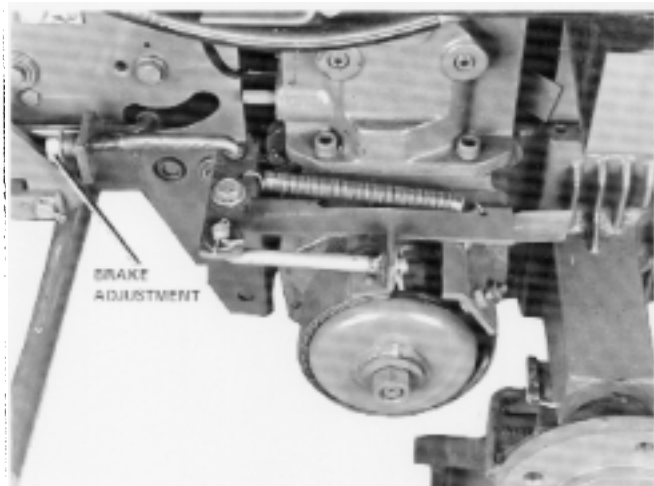

Fig. 5-13 C-Series Automatic Brake Adjustment
To adjust the brake on C-Series automatic tractors, follow the preceding procedure outlined under "8-Speed Models." See Fig. 5-13.
13. Remove brake rod adjusting nut. (Ref. Fig. 5-13).